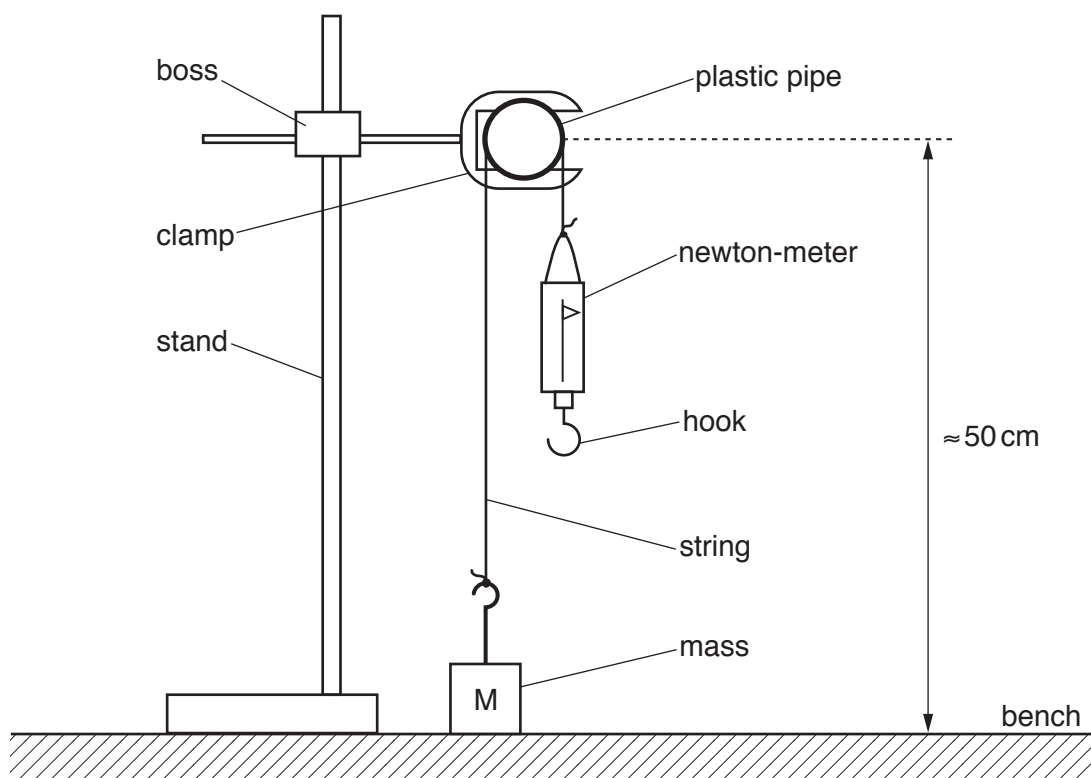

Fig. 2.2
- (c) (i) Use the stand, boss and clamp to hold the pipe securely parallel to the bench. Adjust the height of the boss until the pipe is approximately 50 cm above the bench. Assemble the rest of the apparatus as shown in Fig. 2.2, with the string passing over the pipe.